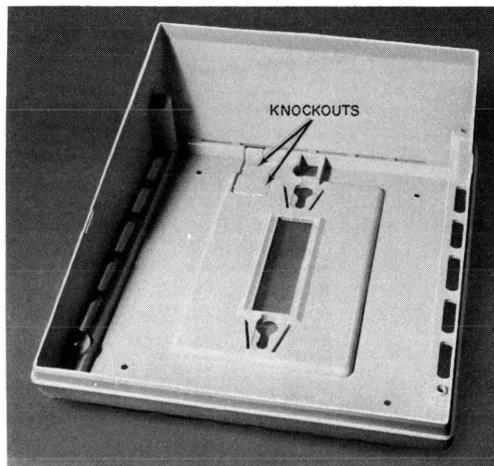

Fig. 11—Lower Housing Removed Showing Knockouts
8.01 Knockouts are provided in the bottom rear of the lower housing (Fig. 11), to accommodate